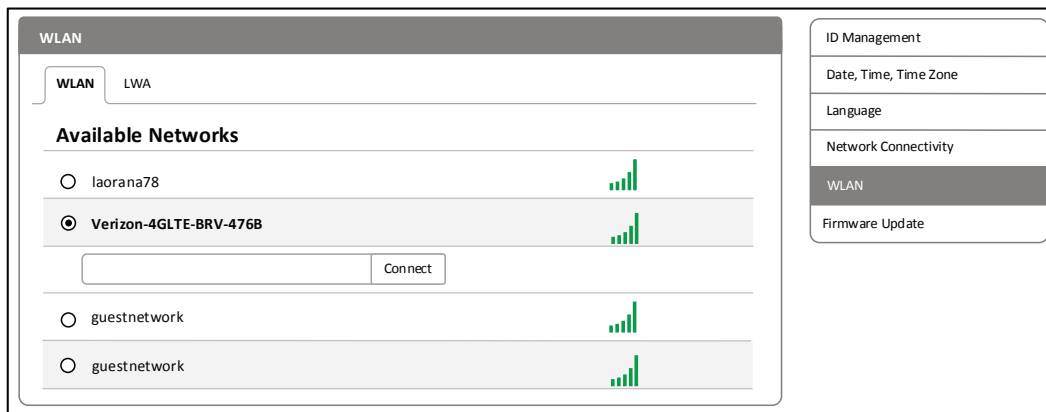

Figure 33, WLAN Password Screen
3. Select the radio button next to the particular network that you wish to access. A password entry field will appear below the network name (Figure 33).